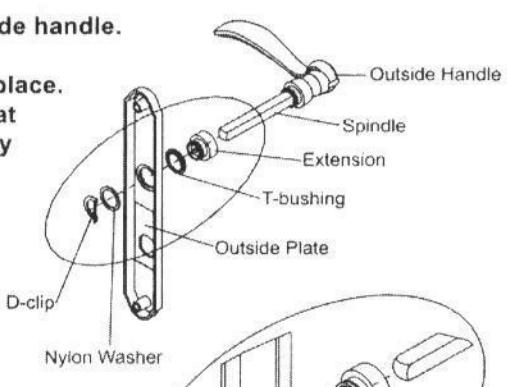

FIGURE 5
A. Insert extension through the T-bushing and outside trim plate. On the back of the outside trim plate, place the flat nylon washer over the extension and slide the D-clip over the flat nylon washer. **See Fig. 5.**